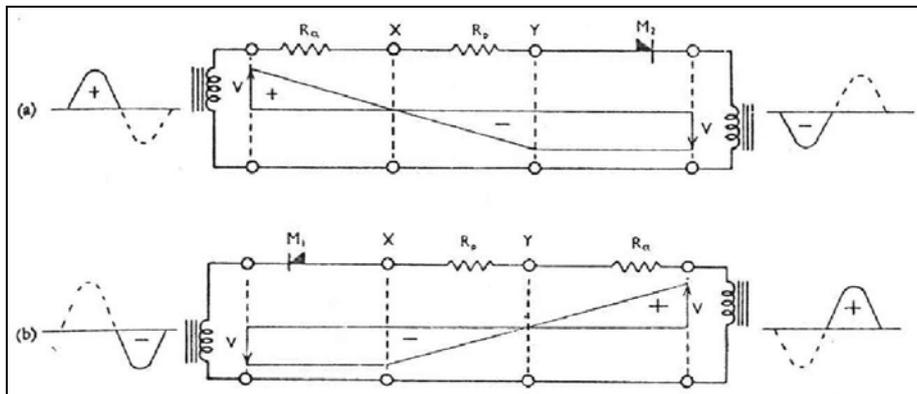

Fig.X.2.-Behaviour of basic circuit under external fault conditions.(a) and (b) show effective circuits during alternate half-cycle.
- When a fault occurs external to the protected zone, an alternating current circulates around the pilot loop. On alternate half-cycles one or other of the resistors R_a at the two ends of the pilot is short-circuited by its associated rectifier M_1 or M_2 , and the total resistance in the pilot loop at any instant is therefore substantially constant and equal to $R_a + R_p$. The effective position of R_a however, alternates between the two ends being dependent on the direction of current. This change in position of R_a makes the voltage distribution between the pilot cores different for successive half-cycles of the pilot current, the effective circuits on successive half-cycles being shown in Fig. X.2 at (a) and (b).